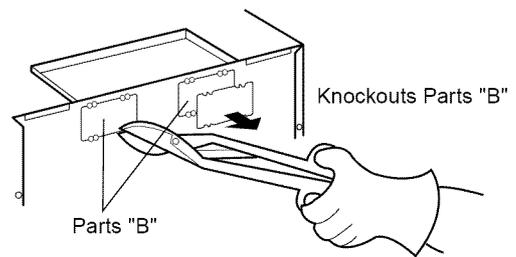

Figure 13
3. Use side cutters or tin snips to cut and remove knockouts "B" from Back plate. Discard knockouts. Be careful not to distort the plate. See Figure 13.